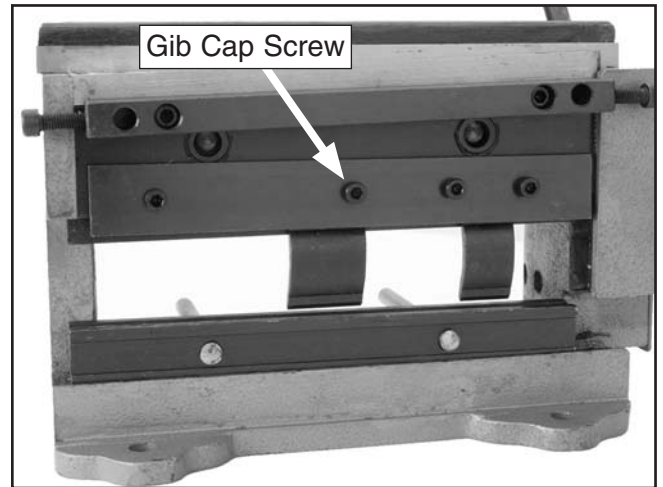

Figure 11. Seated fingers.
9. While holding the fingers in the seated position (**Figure 11**) with the work lever, tighten all the gib cap screws and reinstall the finger receiver.